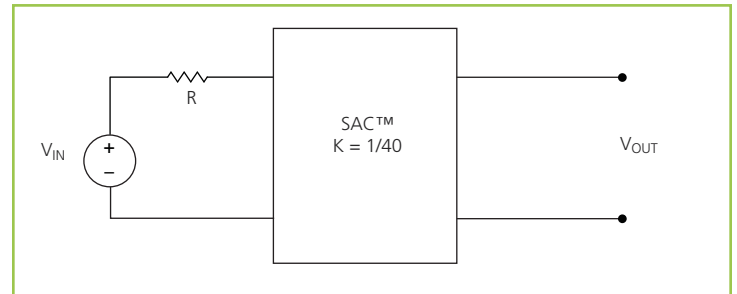

Figure 18 – $K = 1/40$ Sine Amplitude Converter with series input resistor
The use of DC voltage transformation provides additional interesting attributes. Assuming that $R_{OUT} = 0 \Omega$ and $I_Q = 0 A$, Eq. (3) now becomes Eq. (1) and is essentially load independent, resistor R is now placed in series with V_{IN} as shown in Figure 18.
Assuming that $R = 1 \Omega$, the effective R as seen from the secondary side is $0.63 \text{ m}\Omega$, with $K = 1/40$ as shown in Figure 18.